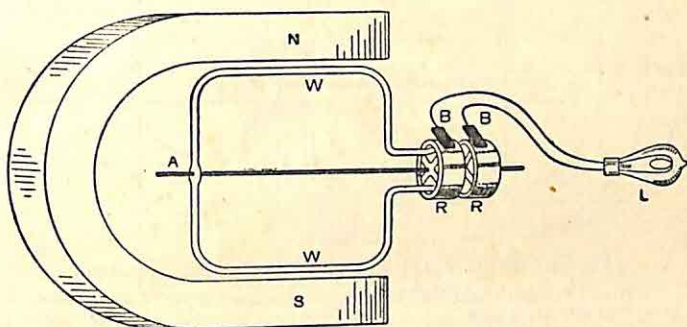

Fig. 46.—Dynamo producing Alternating Current
*Notebook Exercise.*—Draw figs. 46 and 47; describe briefly how a dynamo works.
In fig. 46 you see a diagram of a dynamo which produces this kind of current. Each time the coil rotates, it produces a current first in one direction and then in the opposite direction. The fact that the current is alternating in this way makes no difference if we are using it for lighting a lamp. It is also used for driving electric motors, though some motors are made for D.C. For some purposes, e.g. electro-plating and accumulator charging, a direct current must be used. If the current supplied